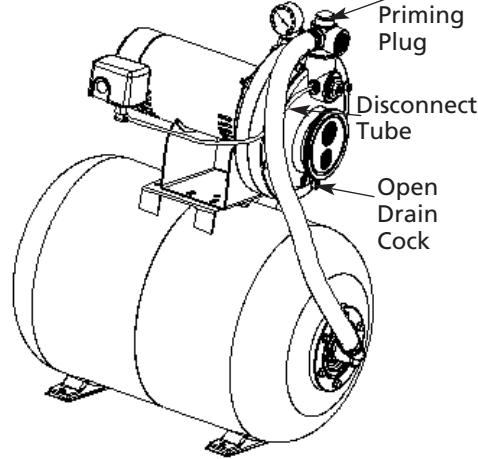

Figure 19 – Winterizing
1. Open drain cock on pump body and disconnect pressure switch tube at pump body (See Figure 19).